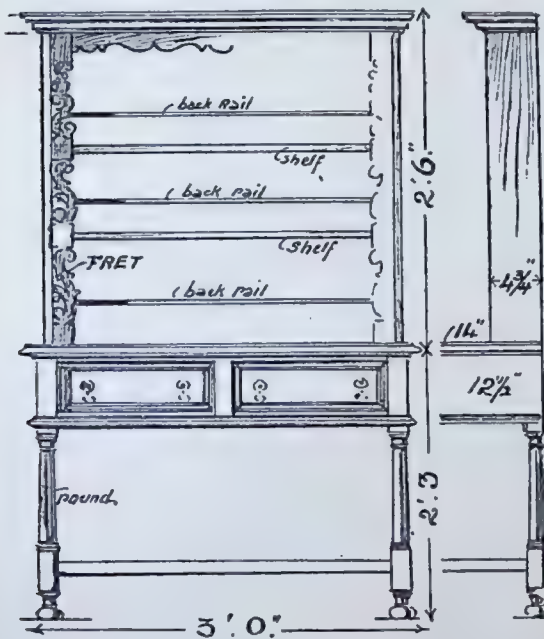
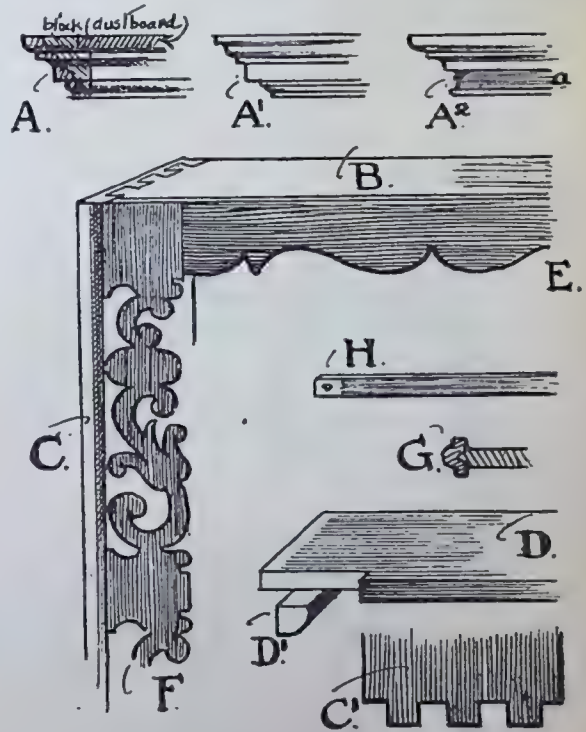

FIG. 2.—DIMENSIONED FRONT AND SIDE ELEVATIONS.
FIG. 3.—PARTS OF UPPER PORTION.
Fig. 1 gives a perspective view of the dresser; Fig. 2 a dimensioned elevation; Fig. 3 the parts forming the upper portion, with a suggestion for putting together; Fig. 4 the parts showing construction of the lower portion; and Fig. 5 a few additional details to a larger scale by way of alternative treatment. The wood proposed to be used is oak, to be selected free from shakes and hollows and specially well seasoned, as the stuff generally will be as thin as possible. The best effect will be obtained by staining to a rich Vandyke brown, for which purpose several coats of weaker stain will be better than one of deeper tint, to be finished with a rub of oil or the polishing rubber at choice. Or the whole thing may be fumed and dull finished.
From the dimensions marked on Fig. 2 it will be seen that the total height is put at 4 ft. 9 ins., the width of carcass being 3 ft. by 12½ ins. deep, back to front, and of the table top 3 ft. 3 ins. by 14 ins., thus allowing the latter to set over the carcass at front and sides by 1½ in. or so. The height may, however, be suitably increased to 5 ft., by adding another 3 ins. to the upper part, should this be desired for any special purpose; but in any case it is thought advisable to limit the cornice to the average eye level so that the dwarf character of the dresser may be retained. Two moulded fronts are shown to the drawers, and these should be fitted with a set of handles of the antique drop pattern, obtainable through the local furnishing ironmonger, or, to save delay, the worker may write to a firm such as Messrs. Oakden's, London Fields, London, N.E.
The top fretted shaping or apron piece (E) can be cut from a piece 3 ft. by 2½ ins. by ¼ in., but will show 1½ ins. wide when fitted, the remaining ¾ in. being allowed for the fixing of the cornice mould. It can be glued into position with a glued block or two behind, and may be fitted the whole width of the uprights; or, as indicated (Fig. 3), may be halved into or butted against the vertical frets. The vertical frets (F) are allowed 2½ ins. to 3 ins. wide to finish ¼ in. thick. They
Coming to the lower part, the top, 3 ft. 3 ins. by 14 ins. by ½ in. or ¾ in. should be neatly jointed and smoothed, and as shown in Fig. 1 is finished with a four-member mould for the ½ in. thickness. If ¾ in. stuff net is used it can be moulded as at I, Fig. 3, or the edge may be simply rounded